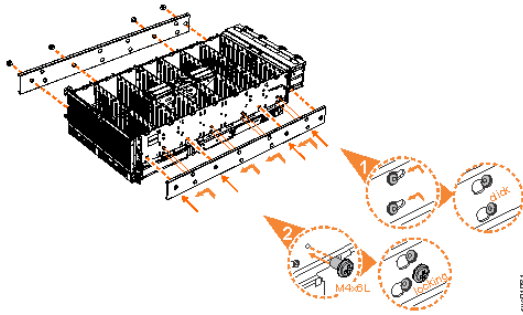

Figure 41. Attaching the inner rail section to the enclosure
5. Install the inner section of the rail onto each side of the expansion enclosure, as shown in Figure 41 on page 83.